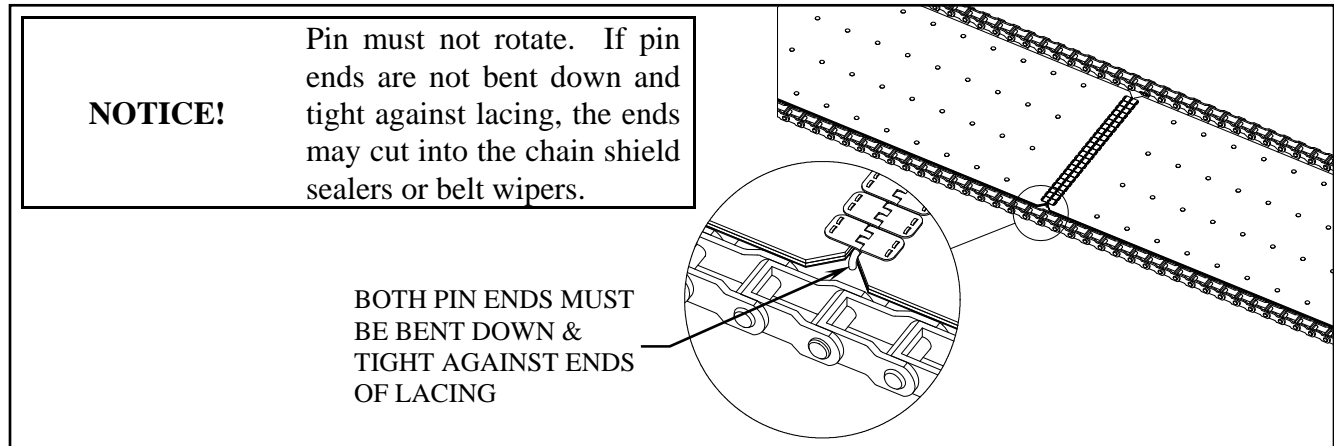

Figure 9 – Conveyor Belt Pin Installation
- Make sure belt connecting pin is positioned correctly as shown in Figure 9.